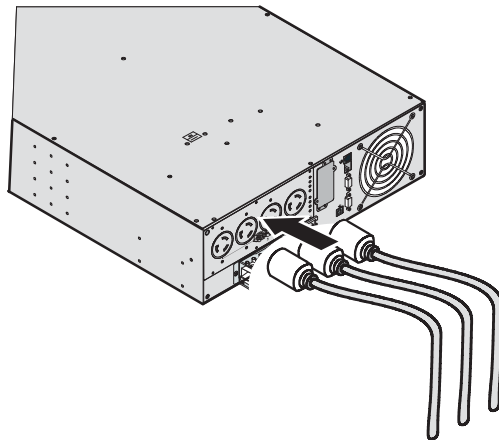

Figure 23. Connecting the Power Cords
7. Plug the equipment to be protected into the appropriate UPS output receptacles (see Figure 23).